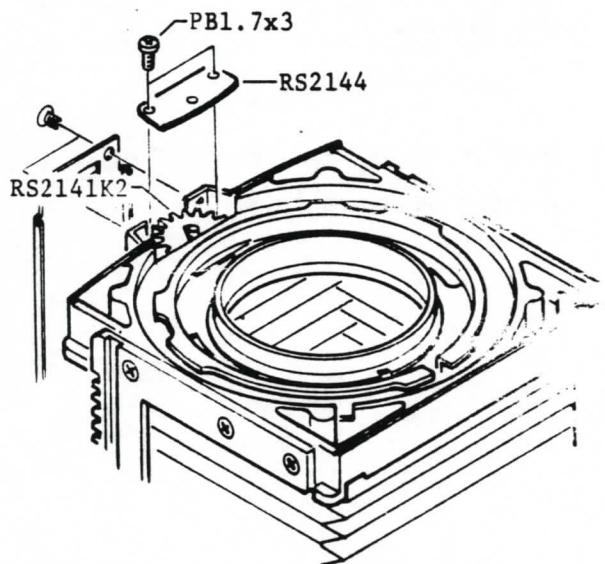

Fig. 12
- (2) In case the above method fails to adjust, change the meshing point between the gear of Cocking shaft and Cocking ring by one tooth after removing Catch plate (RS2144) as shown in Fig. 12.